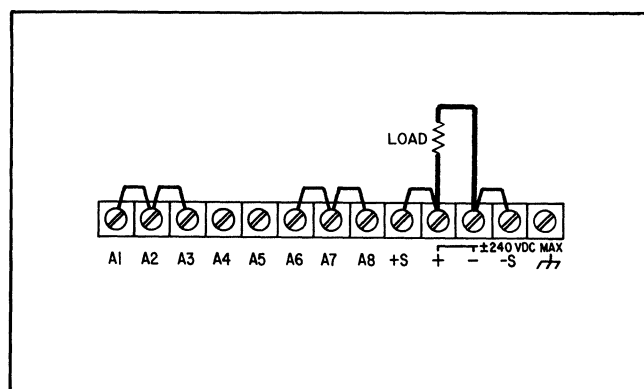
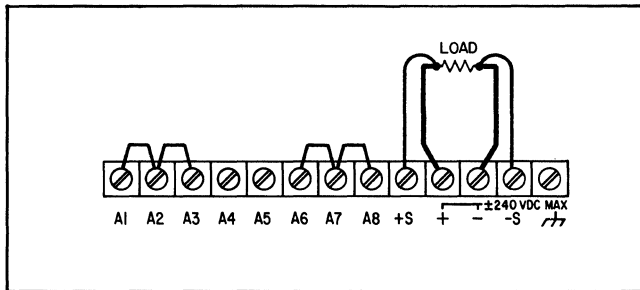

Figure 3-2. Normal Strapping
Figure 3-4. Remote Sensing
a. Ensure that rear terminal board straps are connected as shown in Figure 3-2, but do not connect load. Check that rear-panel label indicates unit is set for line voltage to be used. If it is not, refer to paragraph 2-23. If unit is equipped with System Option 002 ensure that option cable is disconnected from rear panel option connector before proceeding.
b. Ensure that CURRENT control (5) is rotated clockwise at least two turns and OVP ADJUST potentiometer (8) is fully clockwise.
c. Press pushbutton LINE switch (1) to ON (pushbutton in) and observe that reflective indicator shows in the LINE switch and that fan operates.
d. Turn VOLTAGE control (2) through output voltage range of unit as indicated on voltmeter (4).
3-10 The power supply was shipped with the proper rear panel strapping connections made for constant voltage/constant current operation with local sensing and local programming. This strapping pattern is illustrated in Figure 3-2. By means of the front panel voltage and current controls, the operator selects either a constant voltage or a constant current output as described in paragraphs 3-17 or 3-19. Whether the supply functions in the constant voltage or constant current mode depends on the settings of the VOLTAGE and CURRENT controls and on the value of the load resistance.
3-35 Because of the unavoidable voltage drop developed in the load leads, the normal strapping pattern shown in Figure 3-2 will not provide the best possible voltage regulation at the load. The remote sensing connections shown in Figure 3-4 improve the voltage regulation at the load by monitoring the voltage there instead of